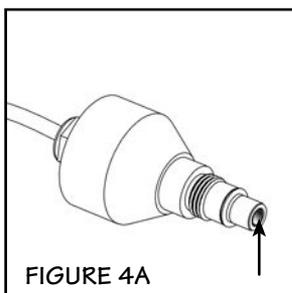
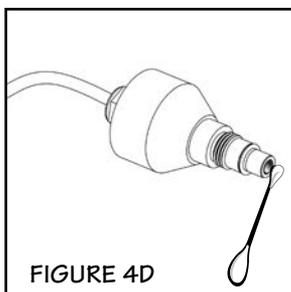

FIGURE 4A
FIGURE 4D
2. Once the sensor is free from the reactor chamber, clean the quartz window (Figure 4A) with a commercial scale remover (CLR or Lime-A-Way) and a lint free cotton swab (Figure 4D). Follow all manufacturer's instructions regarding the cleaning fluid used. Do not use an abrasive cleaner on the sensor window. Scratching of the sensor window will void any manufacturer's warranty on this item.